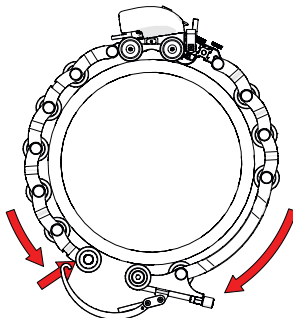

Fig. 21 - Hook buckle to catch link
7. Bring the buckle arm towards the catch link. Hook the buckle's arm to the middle axle of the catch link (Fig. 21). The buckle adjustment knob (Fig. 22-1) may have to be loosened to allow arm to reach catch link.